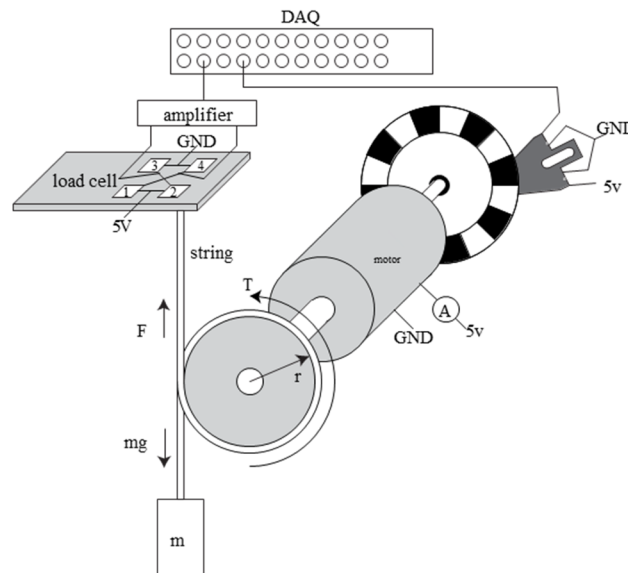

Figure 6. Experimental setup with Prony Brake dynamometer and strain gauge tension measurement.
4. Given the stripe pattern shown in Figure 6, how would you convert from the frequency of the signal measured by the optical pickup to the rotational speed of the motor shaft in RPM?
5. Using equation (10), find the maximum power output for a DC motor in terms of the stall torque and no-load speed. What is the rotational speed at which max powers occurs?
6. The ***Lab10_motordata.mat*** file contains rotational speed (rad/s), measured torque (N-m), motor current (A), and applied voltage (V) from a dynamometer test. Using this data do the following. Be careful of units: